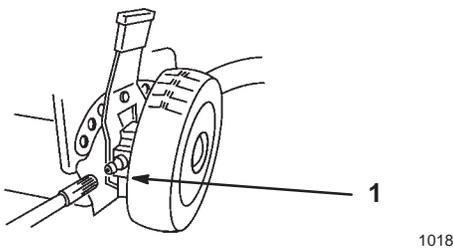

Figure 29
- Wipe the grease fittings on the rear wheel height adjustment levers (Fig. 29) with a clean rag.